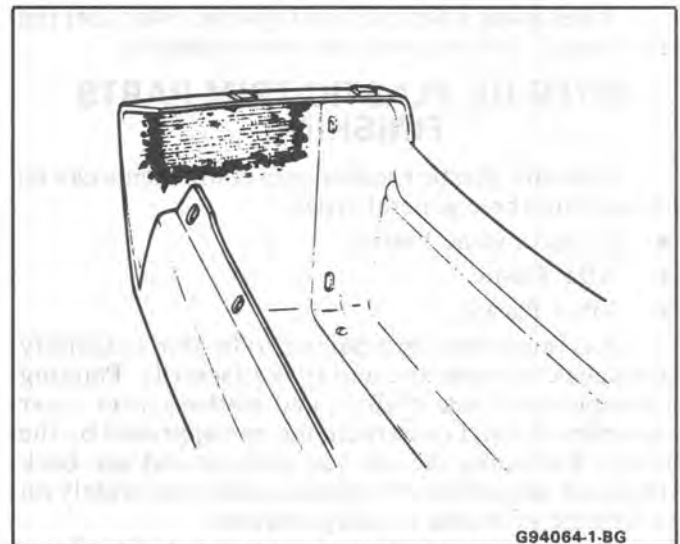

Fig. 24-Applying Fiberglass Cloth to Repair Material
- e. Apply the precut fiberglass cloth to the adhesive and immediately cover the cloth with additional adhesive in sufficient quantity to fill the weave (Figs. 24 and 25).